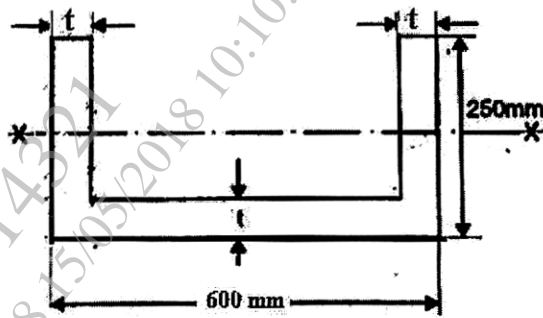

Fig. No. 04
- Que 03 a) A beam having a cross section in the form of channel as shown in Fig. No. 04 is subjected to bending moment acting about X-X axis. Calculate the thickness 't' of the channel in order that the bending stresses at the Top and Bottom layer of the beam C/S will be in the ratio 7 : 3.